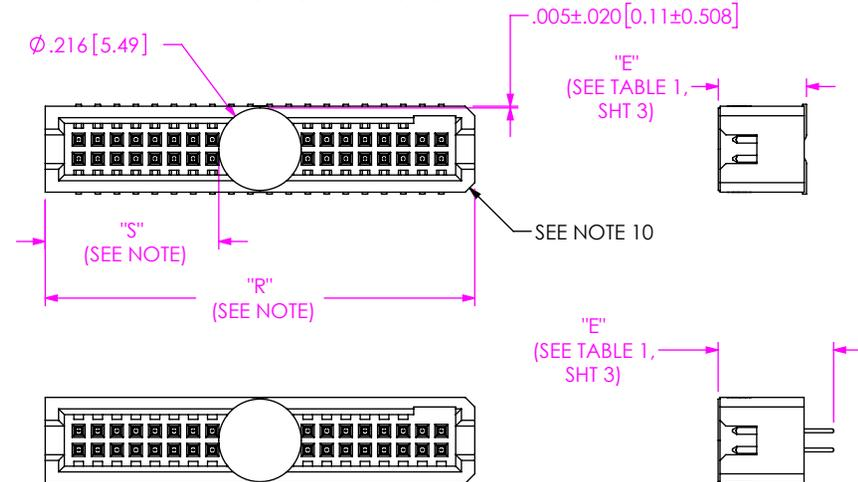

FIG 3
- K: POLYIMIDE FILM (SEE FIG 3, SHT 2) (ALL LEAD STYLES EXCEPT -21 AVAILABLE) (NOT AVAILABLE FOR -RA) (USE K-DOT-.217-.313-.005)